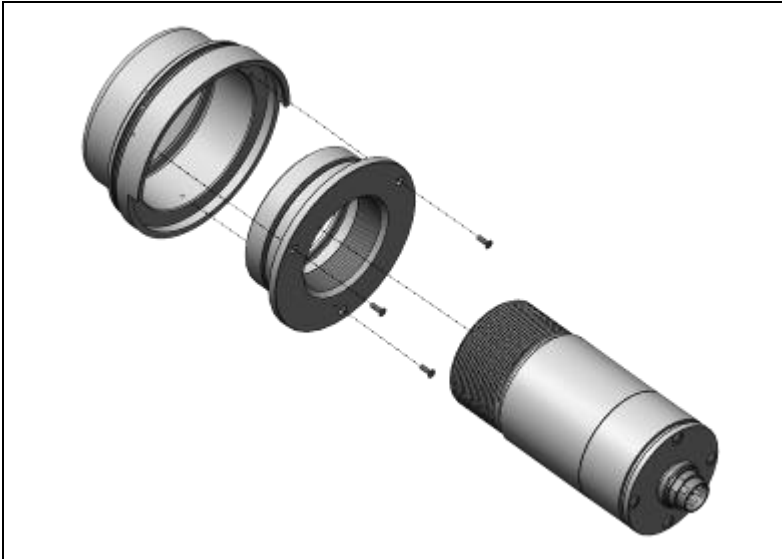

Figure 23: Assembling of the CTlaser, CSlaser, CTvideo, CSvideo
1. Screw the infrared thermometer in the thread (M48x1.5) of the front part (see **Figure 23**) and seat the front part in the chassis (**Figure 39**).